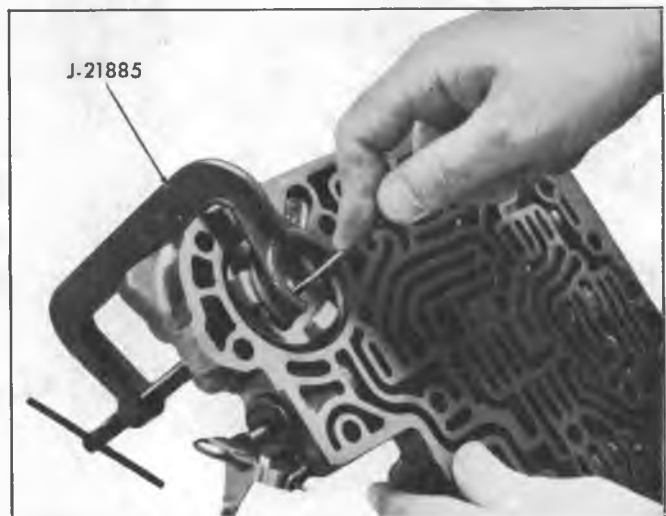

Fig. 54M--Removing Direct Clutch Accumulator Piston Retaining "E" Ring
8. Install Tool J-21885, on direct clutch accumulator piston and remove retaining "E" ring (fig. 54M).